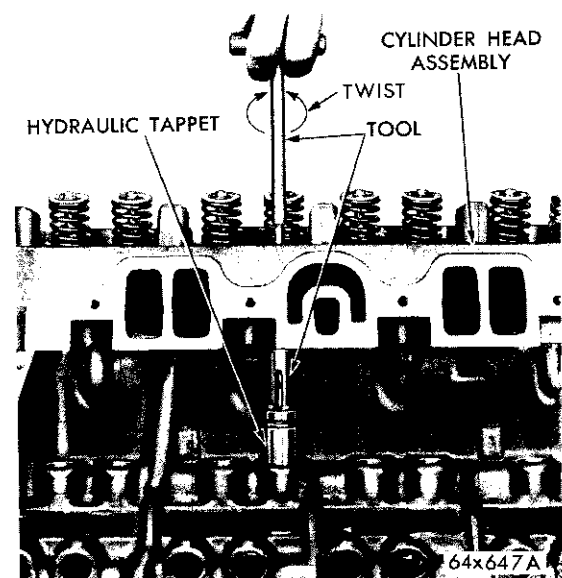

Fig. 16—Removing Tappet Using Tool C-3661
(5) Pull the tappet out of the bore with a twisting motion, as shown in Figure 16.